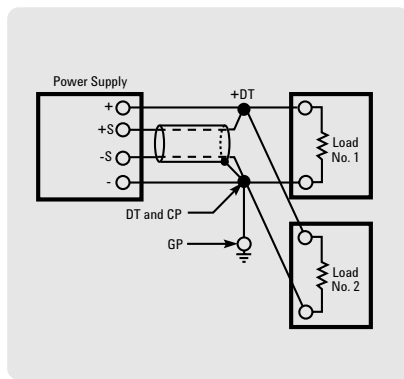

Figure 12
STEP 8. Remove the jumper connections between the power supply sensing and output terminals, and connect the power supply sensing terminals to the DC distribution terminals as shown in Fig. 12.